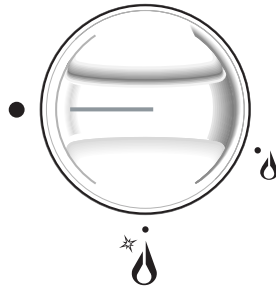

Fig. 2.1b
The electric ignition is incorporated in the knobs (★ symbol beside flame ★ 🔥) - max. heat/max. gas flow fig. 2.1b).
- 1 - Turn the knob fig. 2.1b in anti-clockwise direction up to the maximum aperture, push in and hold the knob; this will light the gas. In case of black-out, bring a lighted match close to the burner.